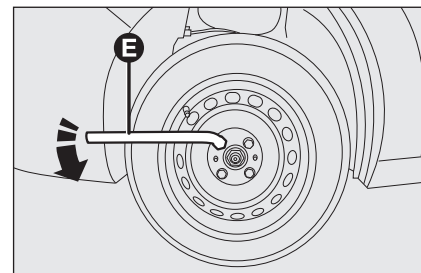

fig. 5
- ☐ loosen by about one turn the bolts on the wheel to be replaced, using the wrench **E-fig. 5**;